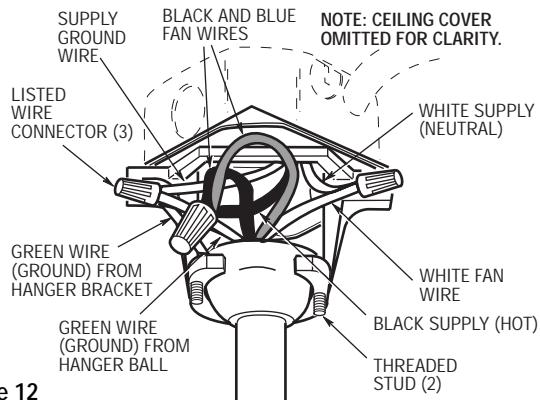

Figure 12
- Connect the green grounding lead from the hanger ball and the green grounding lead from the hanger bracket to the grounding conductor of supply (this may be a bare wire or wire with green colored insulation). Securely connect wires with wire connectors supplied. (Figure 12.)
- Securely connect the fan motor white wire to the supply white (neutral) wire using wire connector supplied (Figure 12). Securely connect the fan motor black wire and blue wire to the supply black (hot) wire using wire connector supplied (Figure 12). After connections have been made, separate the white and green leads from the black and blue leads. Carefully turn the leads upward and push the green and white leads into one side of the outlet box. Then push the black and blue leads into the other side of the outlet box.
- 3. Screw the two threaded studs (supplied) into the tapped holes in the hanger bracket (Figure 12).